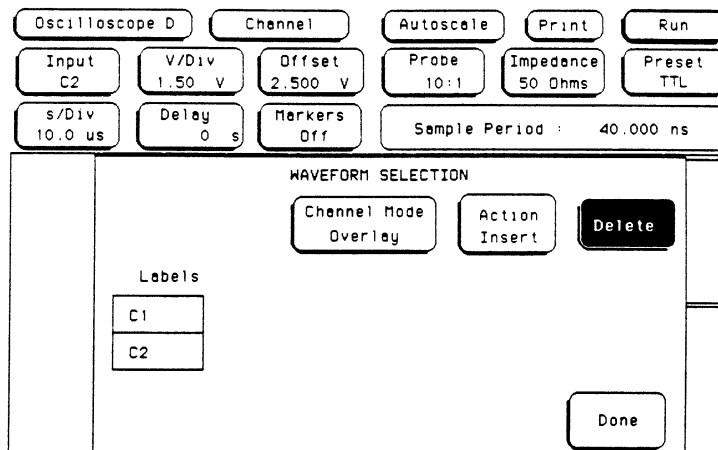

Figure 4-9. Overlay Screen
- i. From **Overlay** screen shown in figure 4-9, delete channel labels displayed by touching **Delete** until all labels in the input label field are gone.